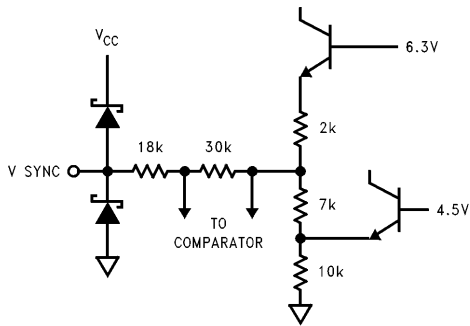

FIGURE 10
**Pin 7. V SYNC:** This pin accepts AC-coupled V sync of either polarity. See *Figure 10* for the input schematic. The input sensitivity of this pin is about 1 VPP. For best noise immunity, a resistor of 10 k $\Omega$  in parallel with a filter capacitor of 0.01  $\mu$ F should be connected from the input side of the coupling capacitor to ground. The values of these components may be varied depending on the application and the ambient noise level inside the monitor. A DC voltage of 0V or 4V on this pin will cause the device to free run at about 40 Hz.